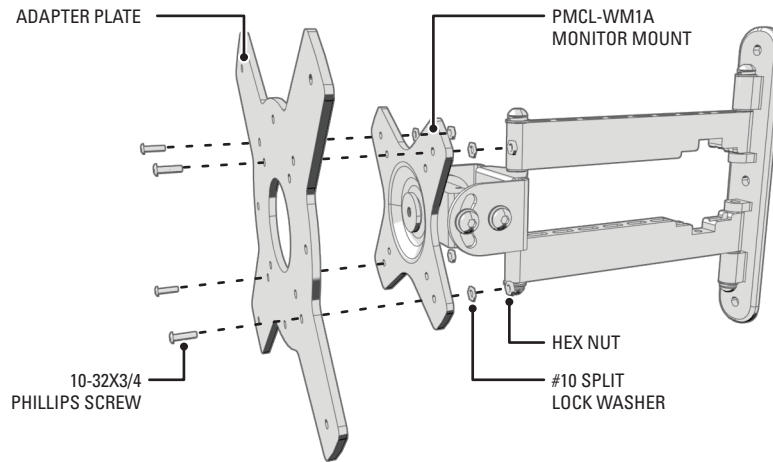

Figure 1. Attaching the PMCL-V200 Monitor Mount Adapter to a Monitor Mount
1. Use the 10-32 x 3/4-inch flat head Phillips screws, #10 split lock washers, and hex nuts (supplied) to secure the adapter plate to the monitor mount. Refer to Figure 1.